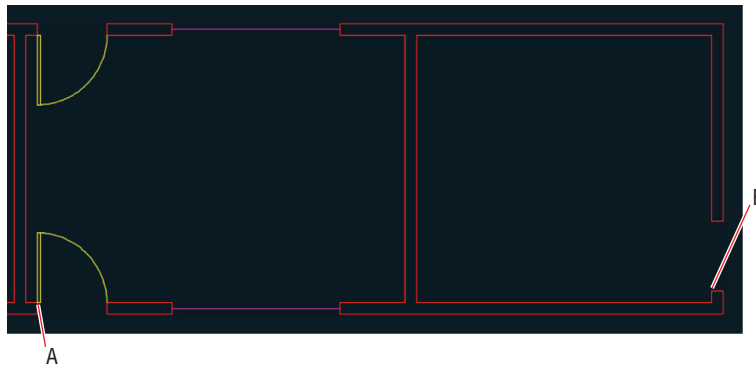

FIGURE 7.14 Copying a block
15. Click the Copy tool in the Modify panel, select the door at the bottom of the middle room, and press Enter. Click points A and B shown in Figure 7.14 to copy a door block into the room on the right. Press Esc to end the COPY command.